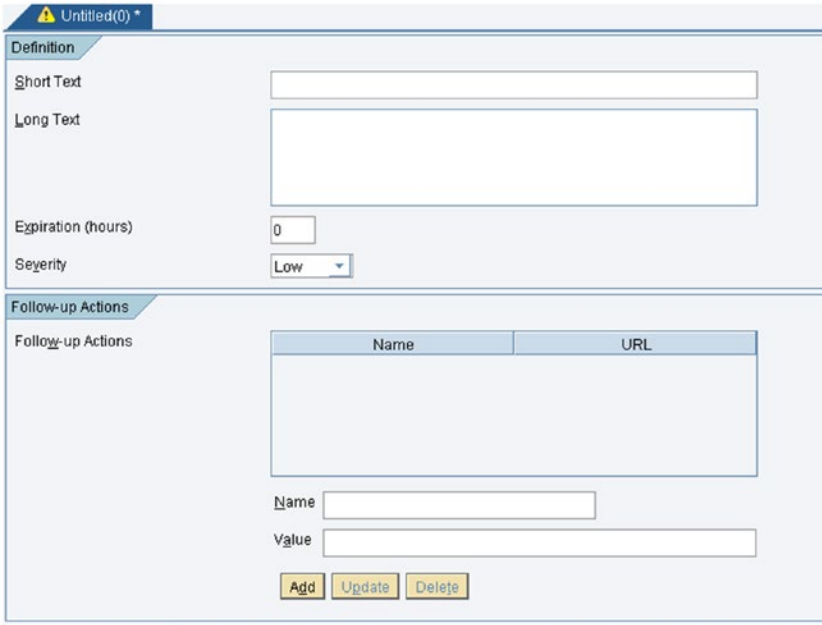

Figure 7-100. Adding short and long text to the Alert object
3. Add short and long text. See Figure 7-100.